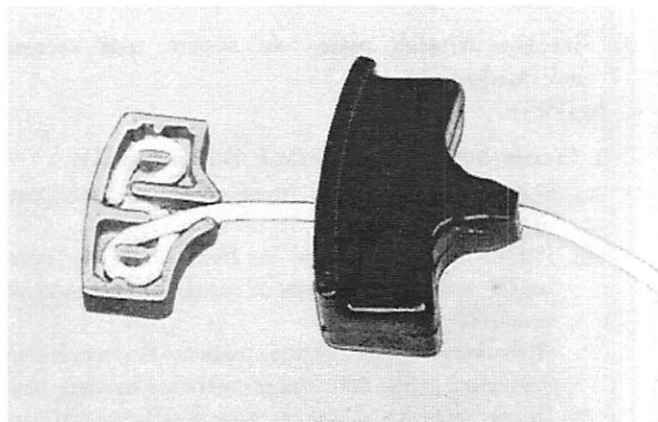

Figure 6. Installing Cable in New Starter Handle
16. Tie "figure 8" knot in cable, cut off excess $\frac{1}{2}$ " from end of knot and press knot into recess of end cap, or install cable into new starter handle as shown in Figure 6.